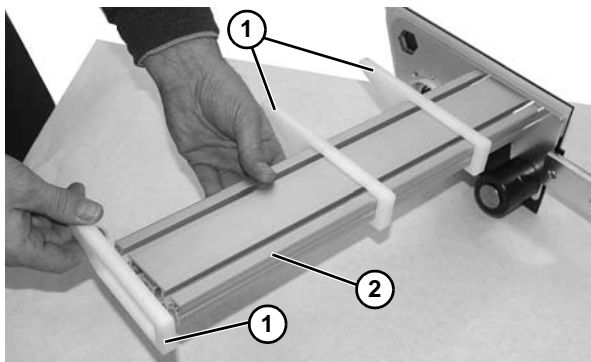

Figure 78
25. Remove gap filler plates (**Figure 78, item 1**) from crossmember (**Figure 78, item 2**).